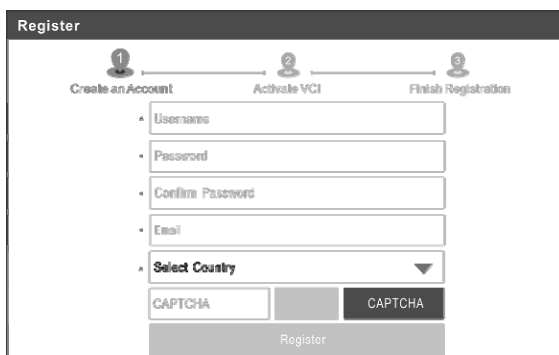

Fig. 4-3
a) Create App Account: In Fig. 4-3, fill in the information in each field (Items with * must be filled). After inputting, tap “Register”, a screen similar to the following will appear: